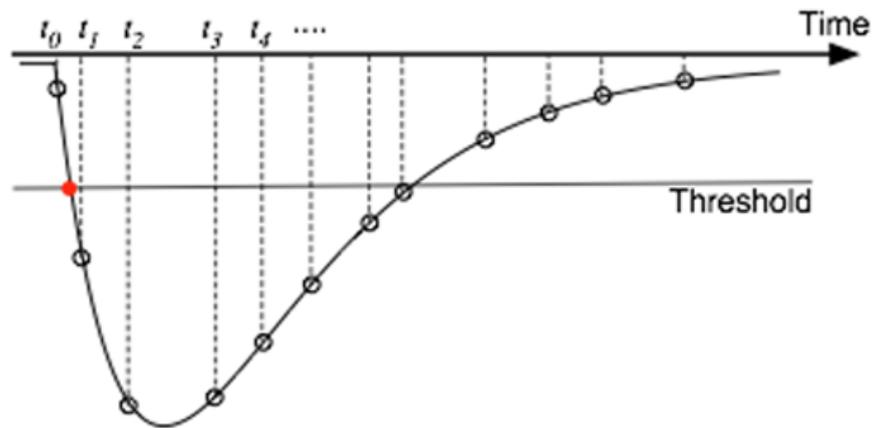

Figure 9 - DAQ triggering on the signal
14) So far, we have applied external triggers to our acquisitions. In this point we are going to trigger on the signal (Figure 9 shows a diagram of this type of acquisition). For this type of acquisition, **turn OFF the trigger channel on the AFE** and run the following script: